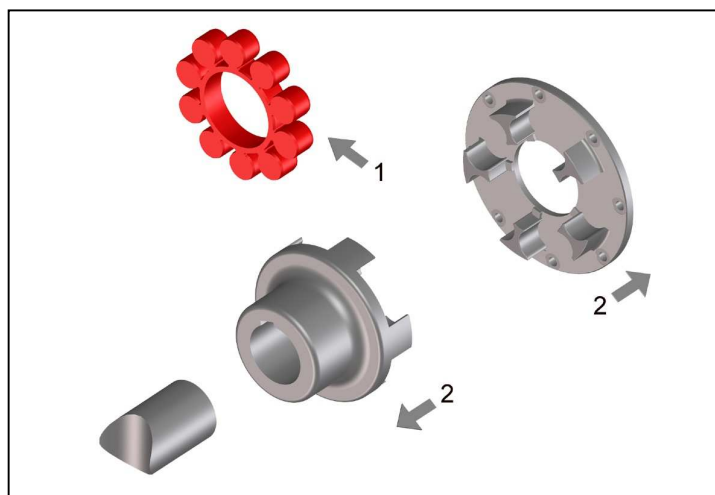

Fig. 3
- Remove the elastic buffer ring (Fig. 3, pos. 1).
- Mount the coupling hub in the proper position on the shaft end (Fig. 3, pos. 2).
- Mount the aluminium coupling flange to the flange connection. When joining the parts, take care that they do not get canted at the centering seat. (Fig. 3, pos. 2).